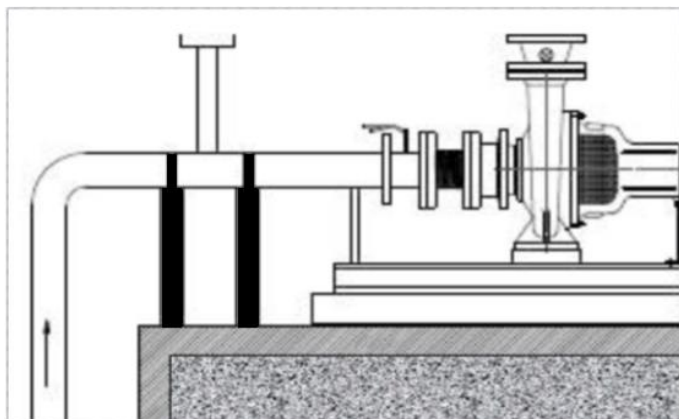

Figure 8.3 Use of Supporting Bracket
- ❖ The weight of the suction pipe should be taken by using supporting brackets, and the weight should not be given to the pump group. (Figure 8.3)